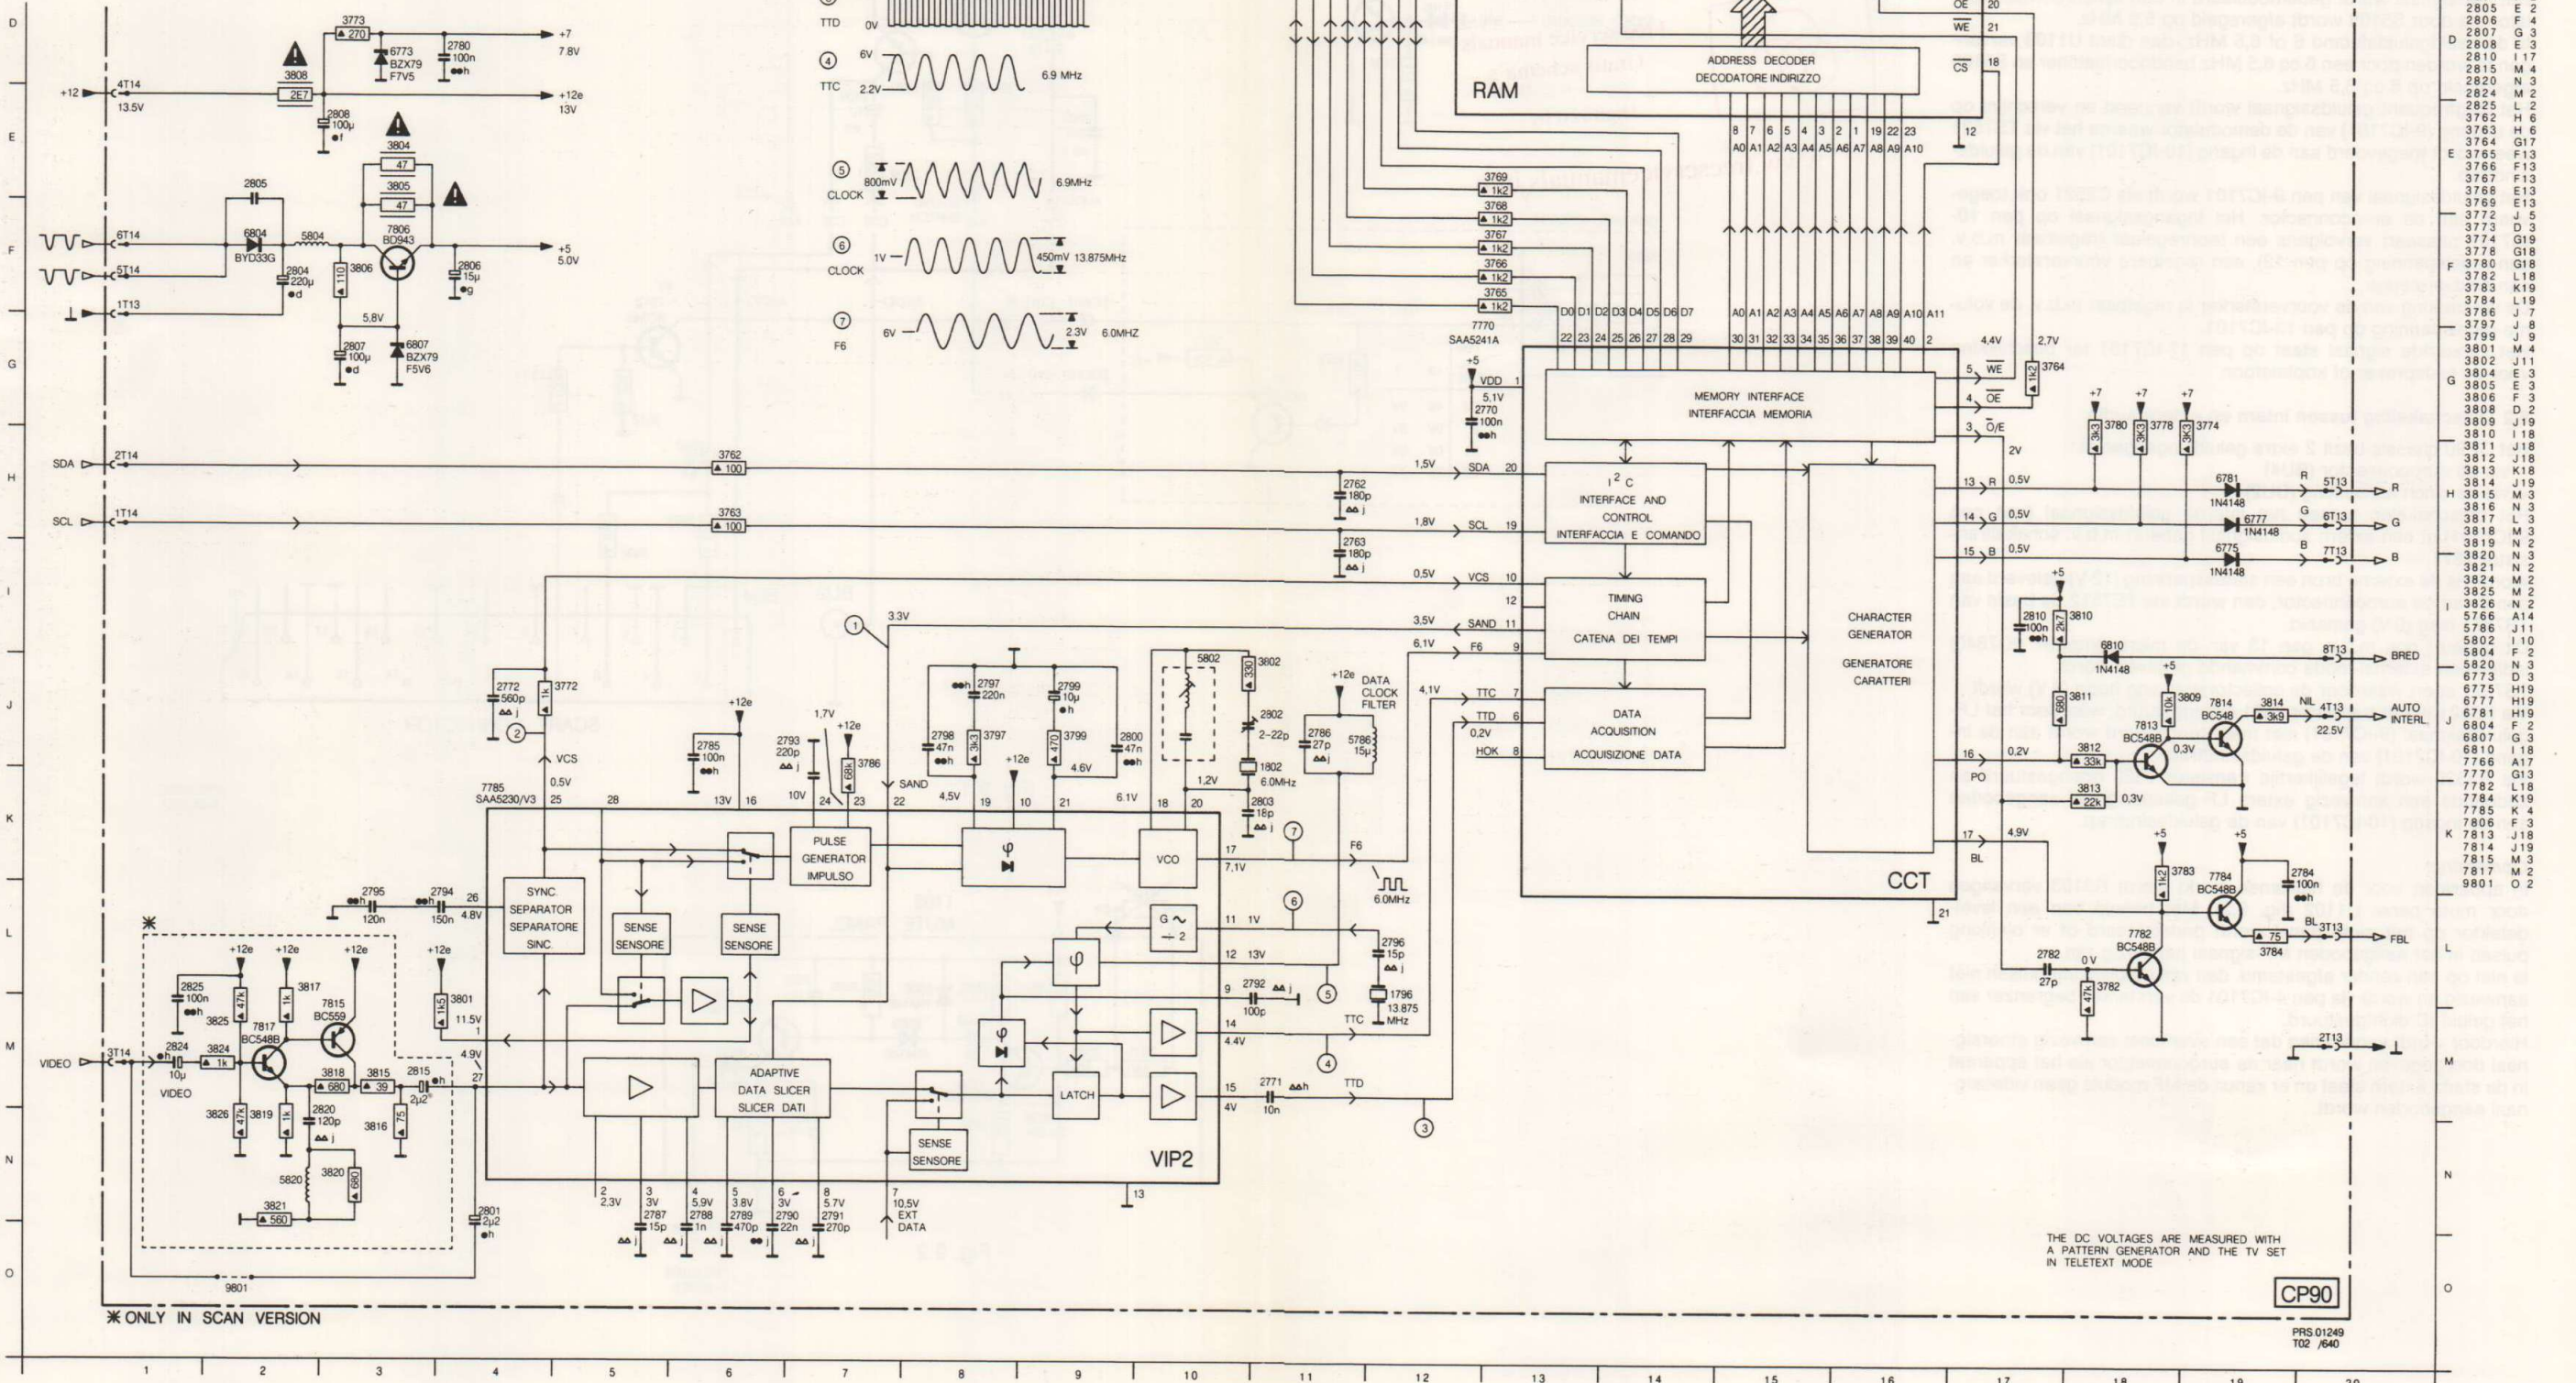

Fig. 8.1
8. TELETEKST DEKODER (fig. 8.1)